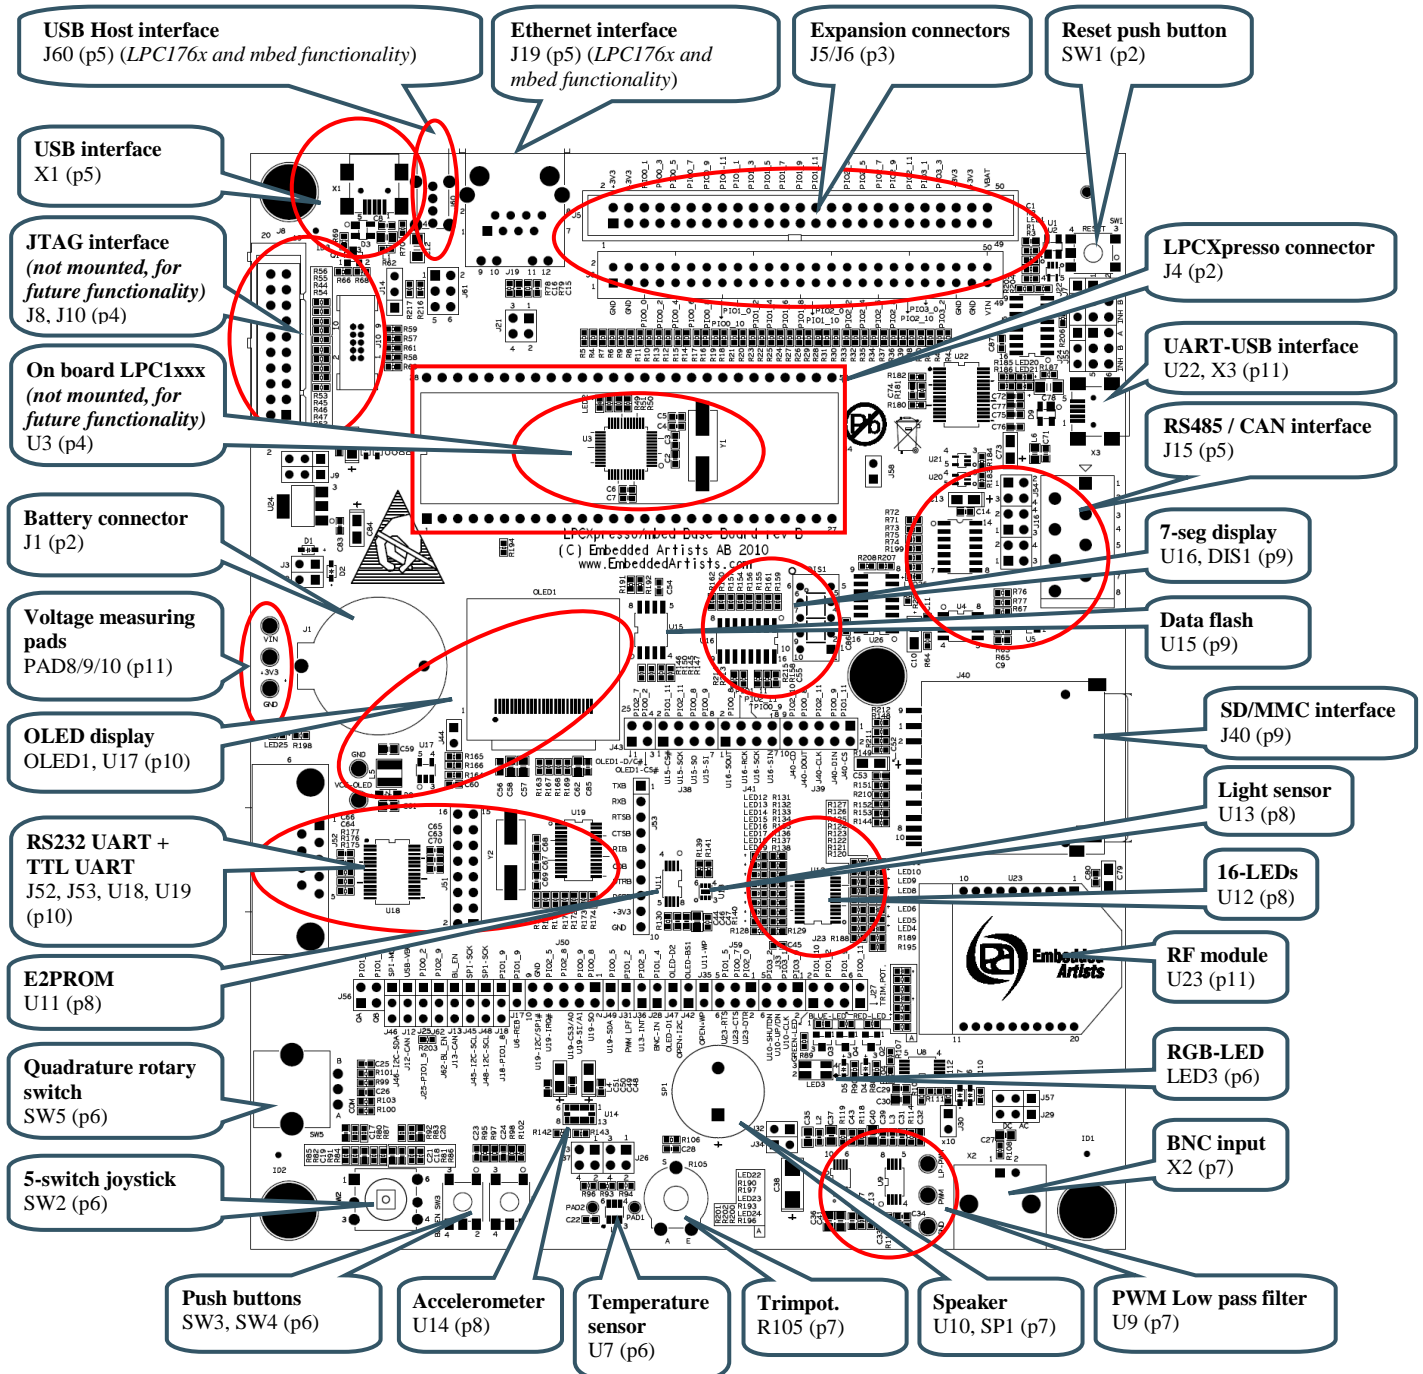

Figure 9 – LPCXpresso Base Board Main Components
Figure 9 below illustrates the main component of the *LPCXpresso Base Board*. The number inside parenthesis (pX) indicate on which schematic page (X) the components can be found.